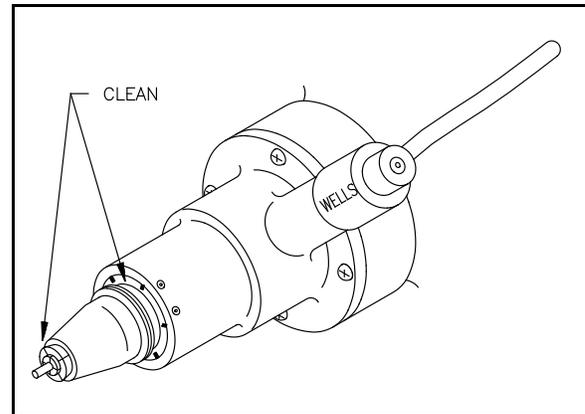

Figure 11.
- 6.10.2 Clean around the collet, collet body and threads with a small brush or rag. See Figure 11. Do not use solvent on the collets unless they are removed. Refer to section 6.2, **CLEANING THE COLLETS**.
6.11.2 Clean around the collet, collet body and threads with a small brush or rag. See Figure 11. Do not use solvent on the collets unless they are removed. Refer to section 6.2, CLEANING THE COLLETS. Use solvent to clean the collet shield when it is removed.